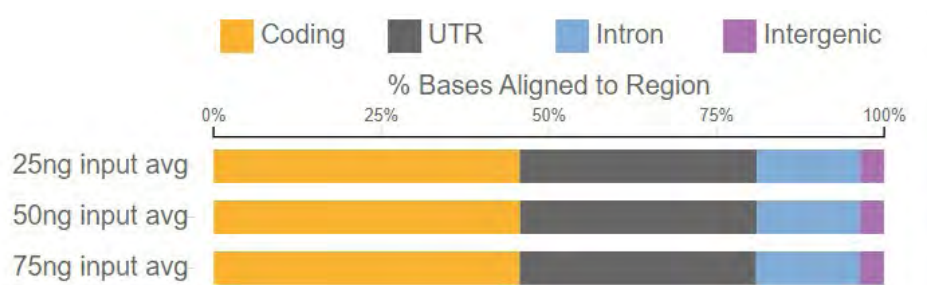

Figure 7. Distribution of mapped reads from sequenced samples.
Final libraries were analyzed post-PCR cleanup on a D1000 screen tape with an Agilent TapeStation 4200 instrument. The libraries were pooled and then sequenced on an Illumina NextSeq550Dx item #20005715 using NextSeq 500/550 High Output Kit v2.5 (300 Cycles), item #20024908. Libraries were subsampled to 30M reads and analyzed using the BaseSpace RNA-Seq Alignment App v2.0.1. Duplicates are reported at 4M subsampled pair-end reads passing filter (PF). The average size for libraries prepared with all 3 inputs was 320bps (**Figure 6a, 6b, 6c**) which is as expected. The average yields for the 75ng, 50ng and 25ng inputs were 16.5ng/ μ L, 8.9ng/ μ L and 4.7ng/ μ L respectively. The performance metrics for the automated Biomek library were compared to previously generated data by Illumina (**Table 2**) and are comparable. The mRNA analyses demonstrates that the distribution feature for RNA extracted corresponds to either mRNA or other RNAs that are not rRNAs (**Figure 7**).